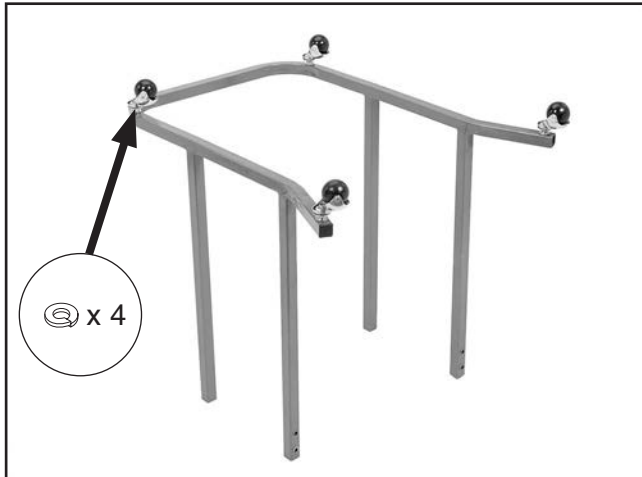

Figure 13. Stand and caster wheels.
1. Invert the stand, place a $\frac{3}{8}$ " lock washer on each of the four caster wheel studs. Then thread each caster into the stand, and using a $\frac{3}{8}$ " wrench, tighten each caster stud onto the stand (see **Figure 13**).